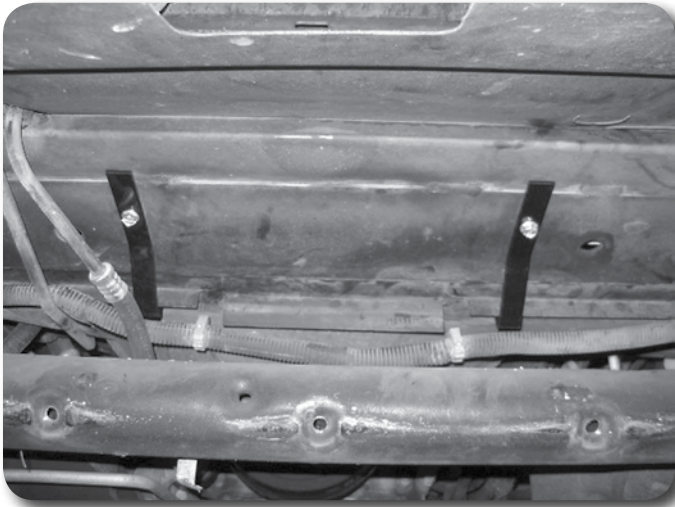

Figure 18
35. With the holes drilled, reposition the lower shroud brackets and fasten with the provided 1/4" x 3/4" self-tapping bolts. Tighten bolts to 10 ft-lbs. Figure 18